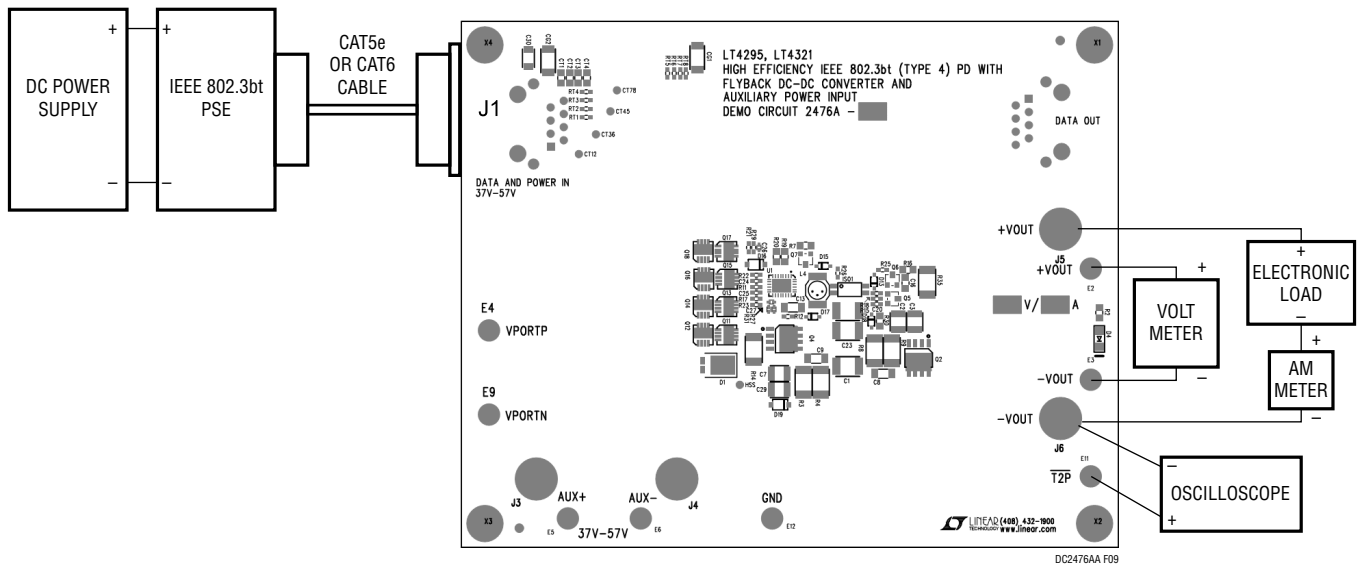

Figure 8. Setup Diagram for PoE Input
2. Place and connect test equipment (voltmeter, ammeter, oscilloscope and electronic load) as shown in Figure 8.
7. Verify  $\overline{T2P}$  response with an oscilloscope as shown in Figure 8. The  $\overline{T2P}$  response to the type of PSE connected to the DC2476A-A is provided in Table 1.